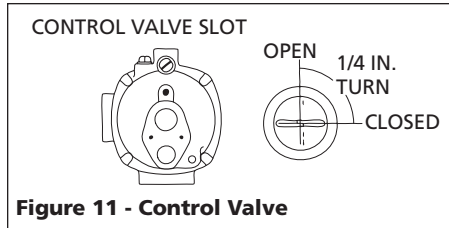

Figure 11 - Control Valve
NOTE: When the deep well pump is used with the bolt-on shallow well jet, be sure the control valve slot (Figure 11, on page 6) is in the vertical (open) position at all times.
4. Close the control valve (Figure 11) and open a nearby faucet.